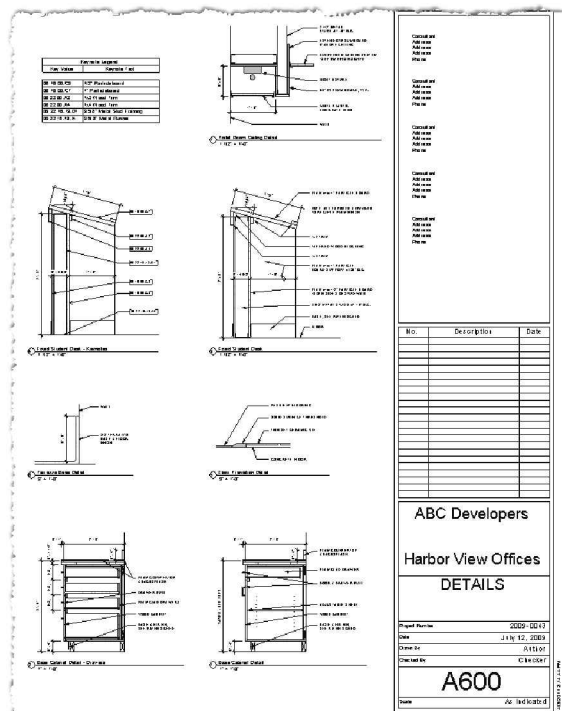

FIGURE 14-1.13 Drafting Views placed on sheet
- A600 Details (see Figure 14-1.13)
28. Take a general look at the *Project Browser* to see how many views are listed. (See Figure 14-1.13 on page 14-10.)
The image to the right, Figure 14-1.13, shows the details created in Chapter 8. If you recall, these are 2D Drafting Views not directly tied to the 3D model.